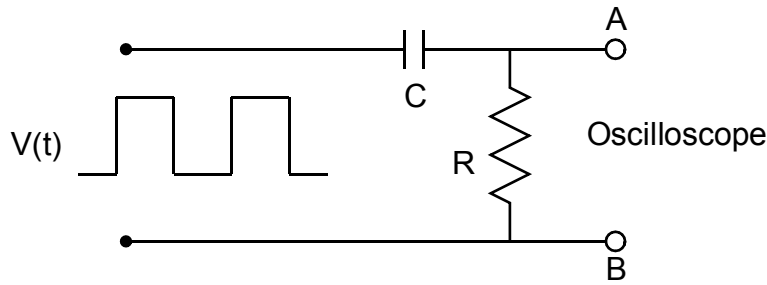

Figure 4: Use a square wave as input.
- Reverse the positions of R and C, as shown in Fig. 4. Use the same values as in parts 1(b) and 2.